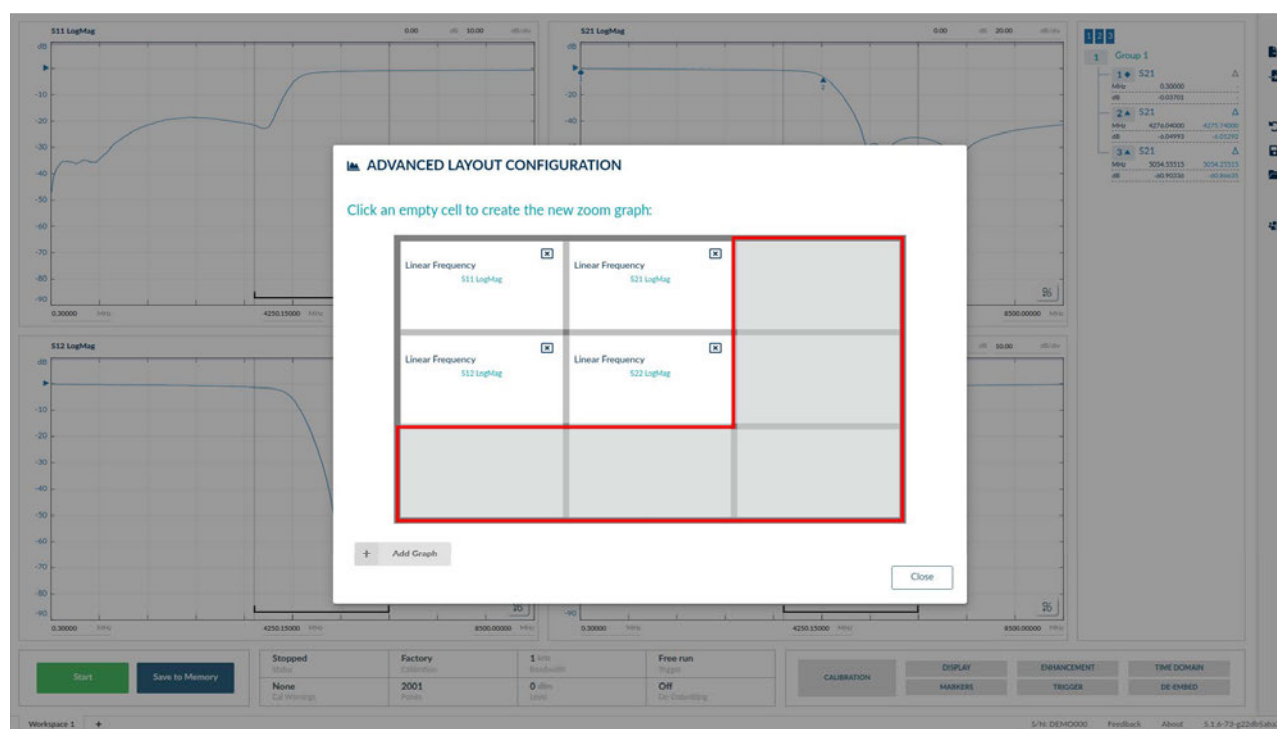

Figure 4.26: A new graph can be created in any of the available display slots (highlighted).
3. Press the “+ Graph” button that hovers over the selected span region in order to create a new viewport to view the zoomed region. The available slots are enclosed in red in Figure 4.26.